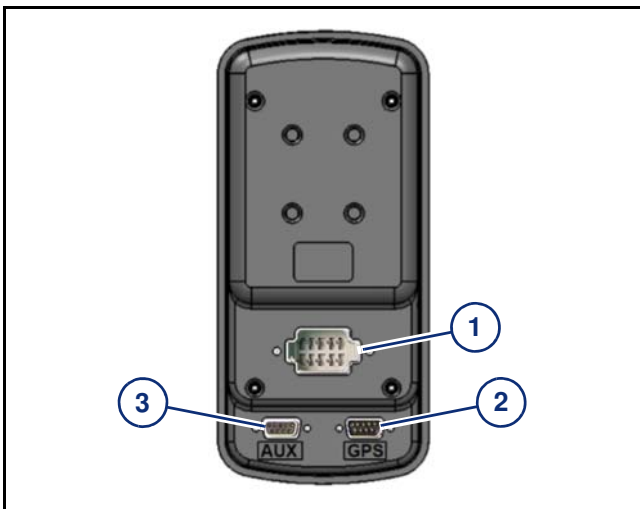

Figure 6
**[Figure 6]** - The connections on the back of the N-Ject® cab display include:
- Main connection (1)
- GPS connection (2)
- Diagnostic (AUX) connection (3)